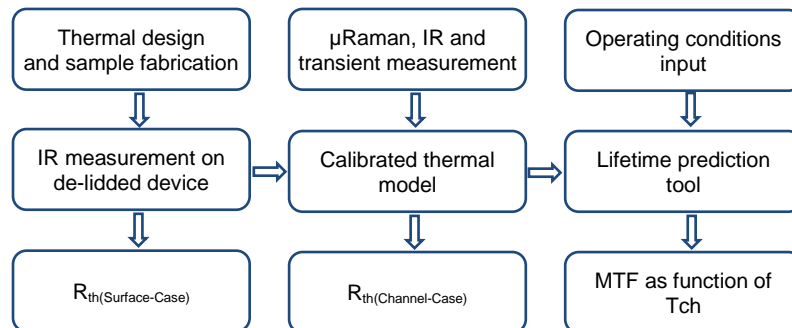

Figure 1. GaN thermal characterization process
Ampleon’s methodology for GaN thermal characteristics represented in datasheets follows the process illustrated in Figure 1. The surface temperature (T_s) of the active die is measured using an Infrared (IR) camera and the case temperature (T_c) with a thermocouple, to extract the thermal resistance of surface to case ($R_{th(s-c)}$). The calibrated finite element analysis (FEA)-based thermal model is used to predict the channel temperature (T_{ch}) for thermal resistance of channel to case ($R_{th(ch-c)}$). In addition, the lifetime tool can predict the Median-Time-To-Failure (MTF is the time that 50 % of the population has failed) vs power and channel temperature in a device. For specific calculation, we refer to the Lifetime Calculator on the Ampleon’s website. Pulse thermal impedance and temperature dependency of thermal resistance can be presented in the datasheet for specific devices.